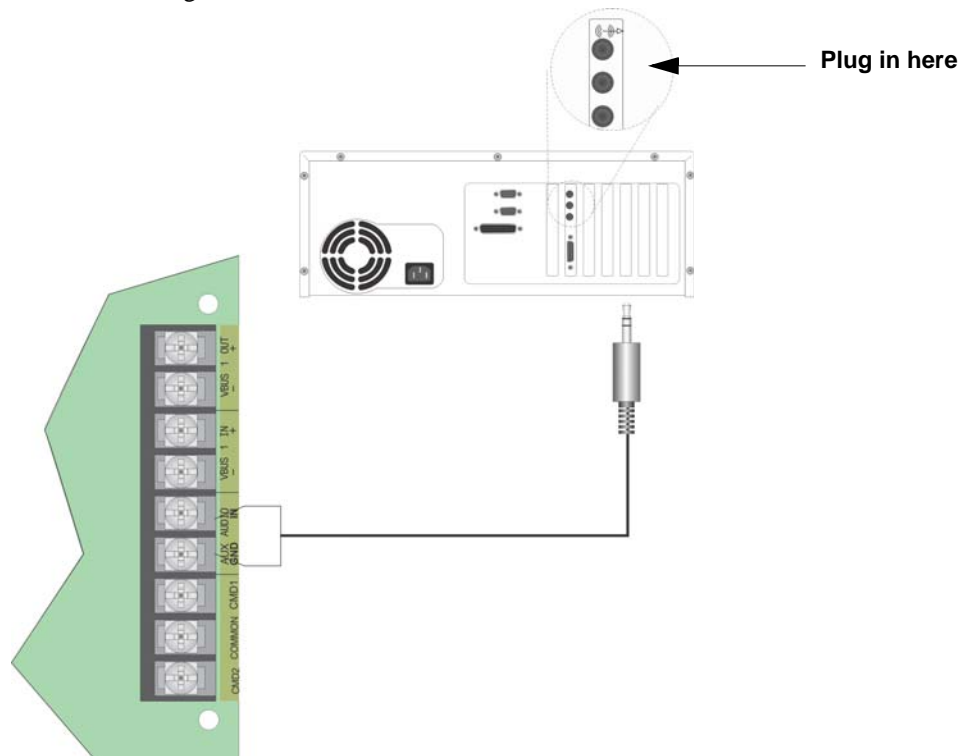

Figure 11-5 Aux Audio Connection for Recording
1. Wire a speaker cable with 1/8" mini plug (Radio Shack Cat. No. 42-2454) to the Aux AUDIO GND and IN terminals. Refer to Figure 11-5.
2. Plug the mini plug into the Line Out/Headphone jack on a PC or laptop. See Figure 11-5.